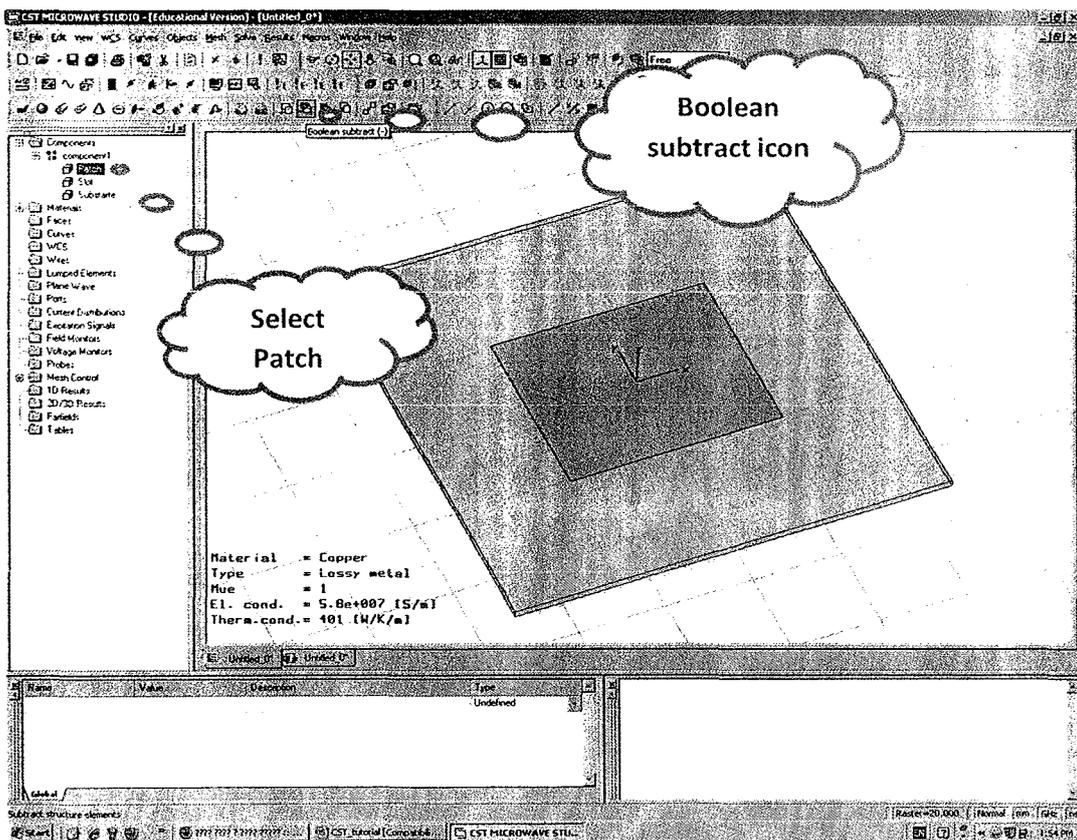

Fig. 12 Cutting the inset feed slot from the patch (a,b,c)
- c. Click on “Boolean subtract (-)” icon from the toolbar, see Fig.12